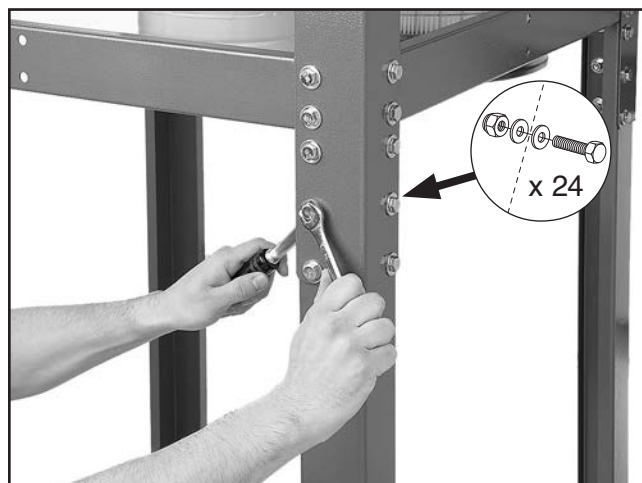

Figure 26. Attaching lower legs to the initial stand assembly.
22. Using the forklift, raise the assembly up and attach the lower stand legs to the upper stand legs, as shown in **Figure 26**, using (24) $\frac{3}{8}$ "-16 x $\frac{3}{4}$ " hex bolts, (48) $\frac{3}{8}$ " flat washers, and (24) $\frac{3}{8}$ "-16 lock nuts.